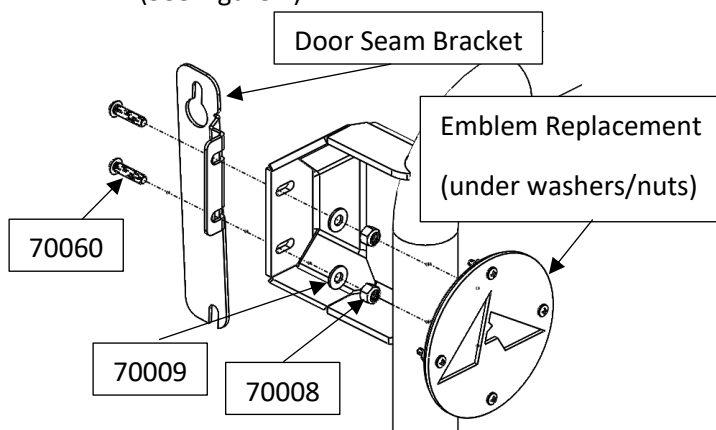

Figure 4: Emblem Replacement and Door Seam Bracket Installation
- Use 1/4"-20 x 3/4" bolts for the center bracket, bolting through the door seam bracket, the door seam, the emblem replacement bracket, and base unit (See Figure 4).